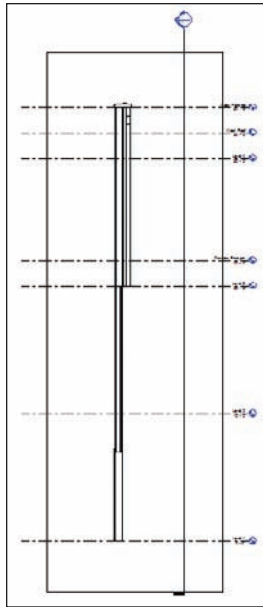

FIGURE 3.53 The wall section at $1/2'' = 1'-0''$
5. Add the section through the corridor wall that was modified in the previous section of this chapter, as shown in Figure 3.53.
10. Change the detail level to Fine. Your section should look like Figure 3.53.